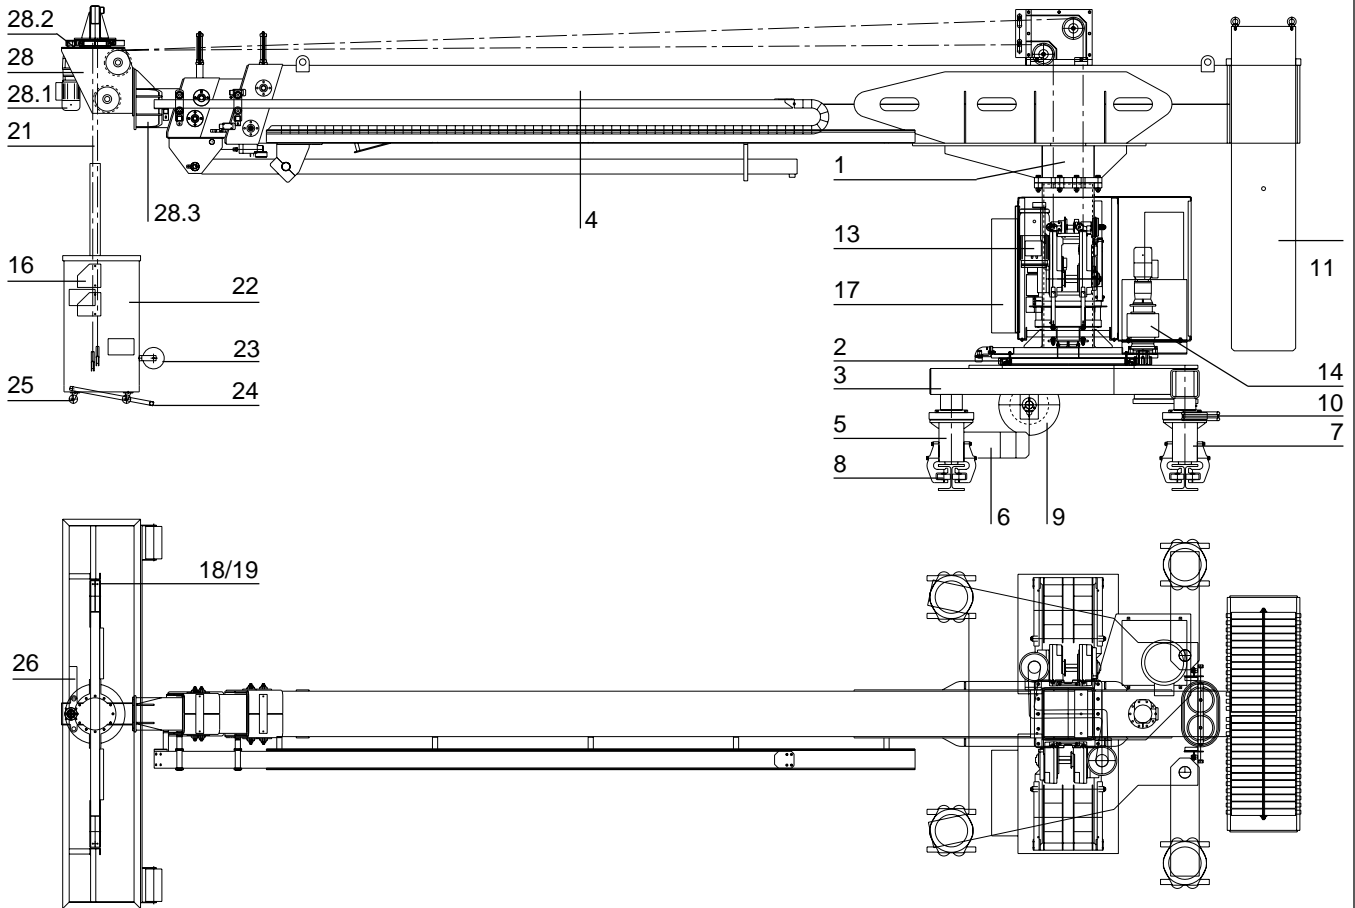

Fig. 3
5. MAIN COMPONENTS OF A SPECIAL SCORPIO MACHINE (see figure 3)